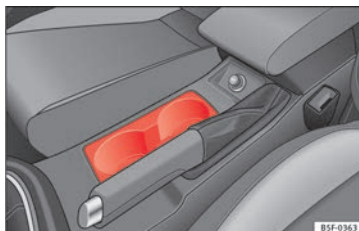

Fig. 159 Centre console: front drink holders.
- Place drinks in the holder »» **Fig. 159**. Placement of two drinks is possible. There is also the possibility of placing larger plastic bottles in the trims of the doors.